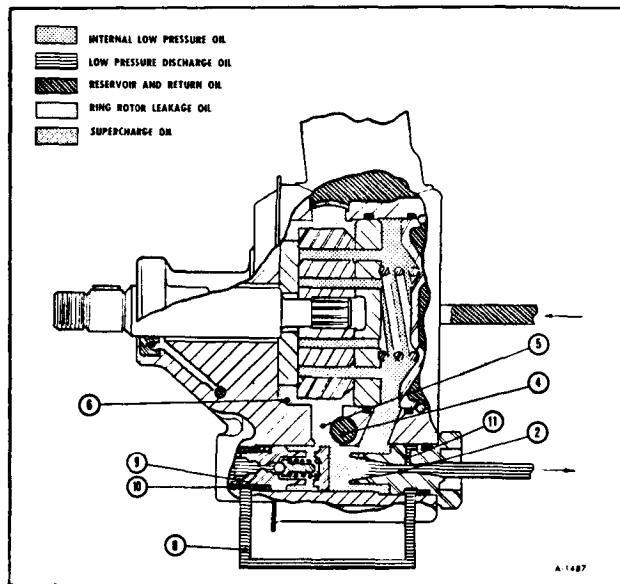

Figure 5-Moderate To High Speed Operation
(2). This reduces the pressure at the bottom end of the pump control valve (9) because the orifice (11) is connected by passage (8) to (9) resulting in a pressure unbalance on the valve. The flow control valve moves away from the discharge fitting, but due to the force of the flow control spring (10) the valve remains closed to the bypass hole (5). The oil pressure does not build up high enough to cause the pressure relief valve to actuate, because the oil pump through the steering gear is allowed to recirculate through the entire system.
**Moderate To High Speed Operation (Figure 5)**